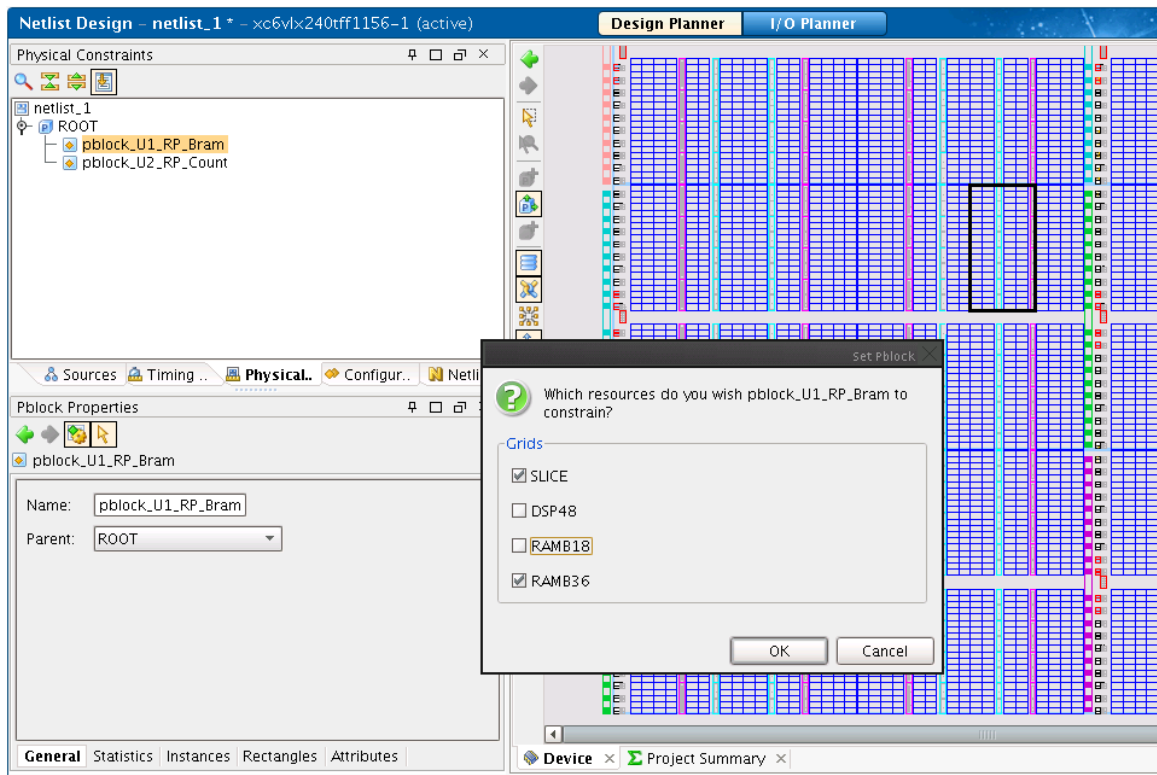

Figure 12: Setting Pblock Resources (pblock_U1_RP_Bram)
- 6-1-5.** After drawing the rectangle, select both **SLICE** and **RAMB36** resources for the AG, as shown in Figure 12.